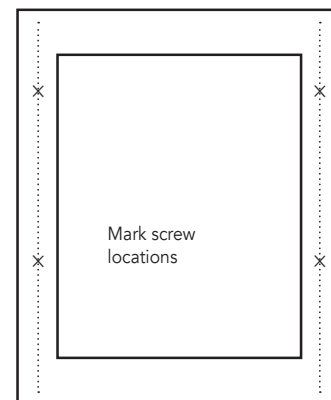

FIGURE 3
Adjust the mounting brackets to line up with the holes and attach to the door using (4) #6 x 1/2" flat head screws (See Figure 3).